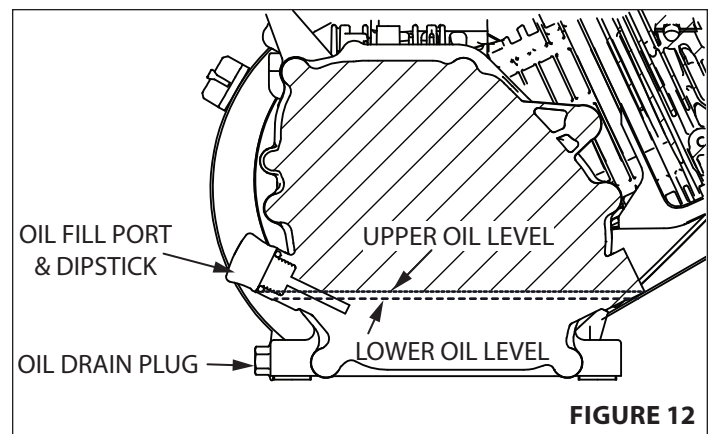

FIGURE 12
2. Remove oil drain plug and empty oil into suitable oil container. Dispose of oil properly. **SEE FIGURE 12**
3. Reinstall drain plug. Remove dipstick (if applicable) or oil fill cap. **SEE FIGURE 12**
4. Fill with appropriate oil to **FULL** or top line of dipstick; otherwise to top thread of oil fill hole. **SEE FIGURE 12**